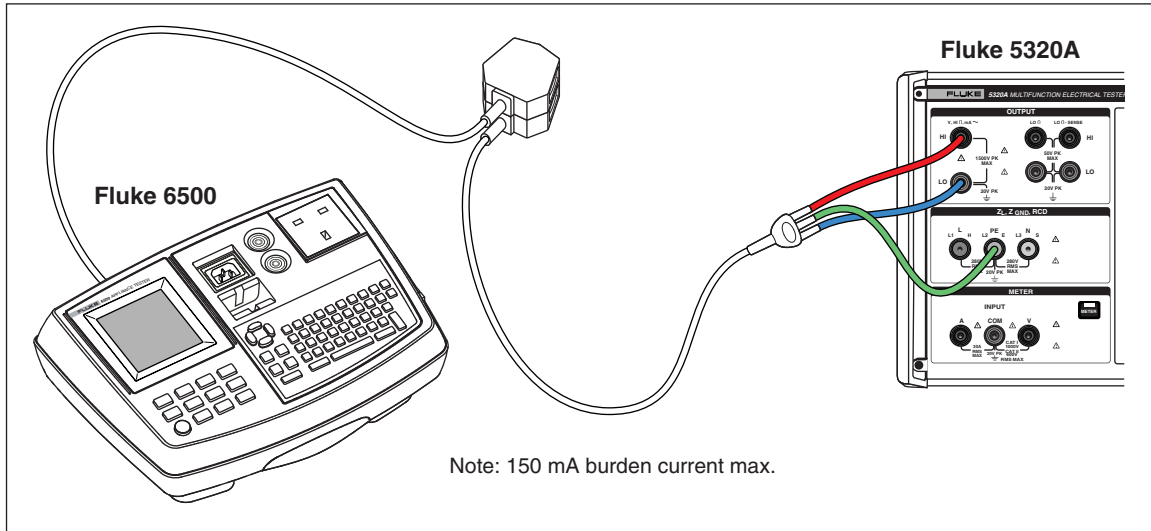

Figure 7-19. Voltage Calibration on Line Powered Appliance Testers
2. Using Figures 7-19, connect the UUT to the Calibrator's Meter A, COM and V terminals. Also, make a protected earth (ground) connection between the UUT and the Calibrator's PE terminal.